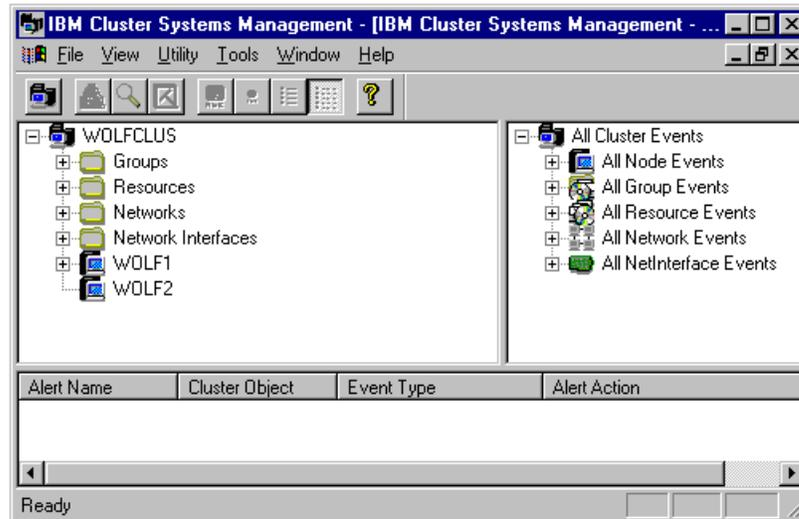

Figure 94. Alert Window for the Cluster WOLFCLUS
1. Click on **Utility** then on **Alert** in the ICSM menu. You will see the window shown in Figure 94 on page 129.